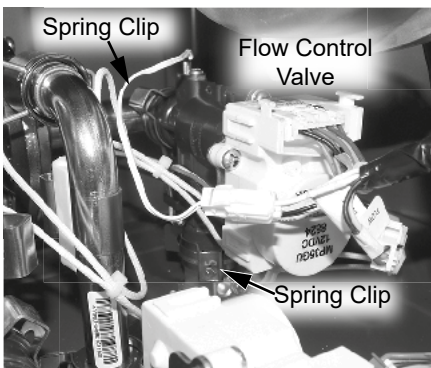

Figure 5 - Locating Flow Control Valve
17 Remove the two (2) spring clips (size 25) securing the flow control valve to the piping system. Place the spring clips aside in a safe place for reinstallation. See Figure 5.
21 Locate the two (2) spring clips previously removed in **Step 17**. Install spring clips to flow control valve, securing it to piping connections. See Figure 5. Verify water connections are tight and will not leak.